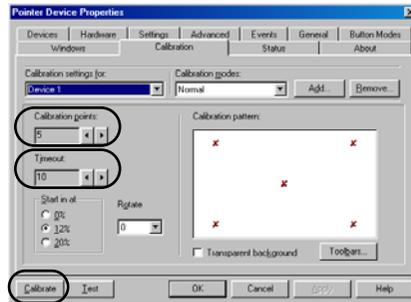
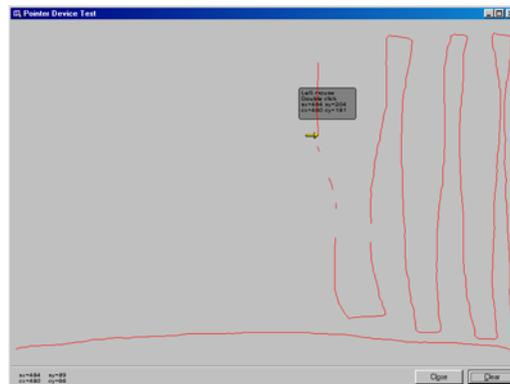

Figure C.3 Calibration Screen
Figure C.8 Test Screen
4. To change the number of calibration points from the default of 5, click on the right or left arrows next to the 'Calibration points' option in the screen below (Figure C.3).
5. To adjust calibration timeout – the number of seconds that can elapse without the stylus touching the screen before calibration is cancelled – click on the right or left arrow next to the 'Timeout' option on this screen (Figure C.3).
6. To begin calibration, click on the 'Calibrate' button (Figure C.3).
- Run your stylus up and down the ‘Test’ screen (Figure C.8) in a continuous line, approximating the pattern in the sample test screen below. Do not lift the stylus from the screen. If the continuous line you draw does not follow the stylus, try adding additional calibration points to your calibration screen (see Figure C.3 on page C-2), and then run the ‘Test’ screen again. If there are gaps in the continuous line as in the sample below, your screen may be damaged.